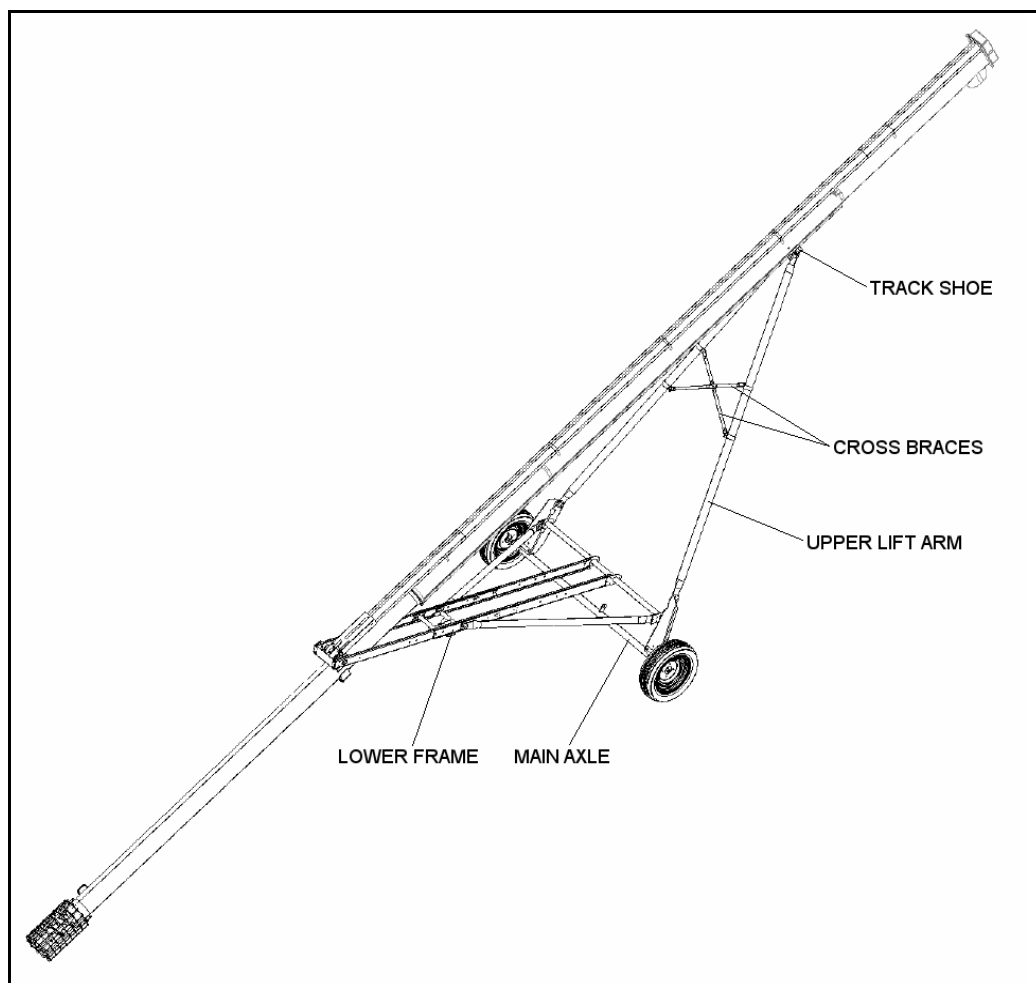

Figure 3.16 Frame Assembly
4. Attach upright brackets to main axle with six 7/16" x 1-1/4" bolts and locknuts (Figure 3.16).
For auger models 841, 846, 851, and 1041 only: install crossbraces between the upper lift arms with four 3" tube clamps and four 1/2 x 1-1/4" bolts and locknuts. Use a 1/2 x 1-1/4" bolt and locknut for the centers (where crossmembers intersect) (Figure 3.16).